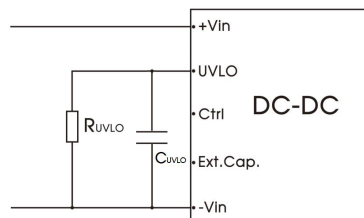

Fig.9
3. The UVLO pin can adjust the point of input under-voltage protection by the external resistance RUVLO. Please refer to Fig.9 for the value of RUVLO. If the pin is left open, the under-voltage protection point is 11V.
3. Resistor RUVLO is used to adjust the input under-voltage protection point. Refer to Figure 9 for the value.